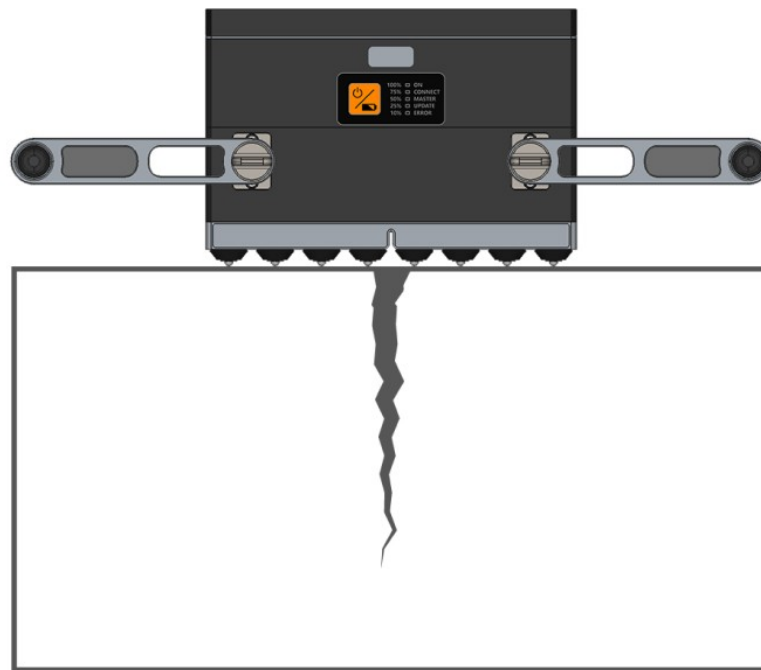

Figure 8: Crack depth estimation with A1040 MIRA 3D
- Keep attention to the device being placed so that the crack is between the fourth and fifth row of transducers, Figure 8